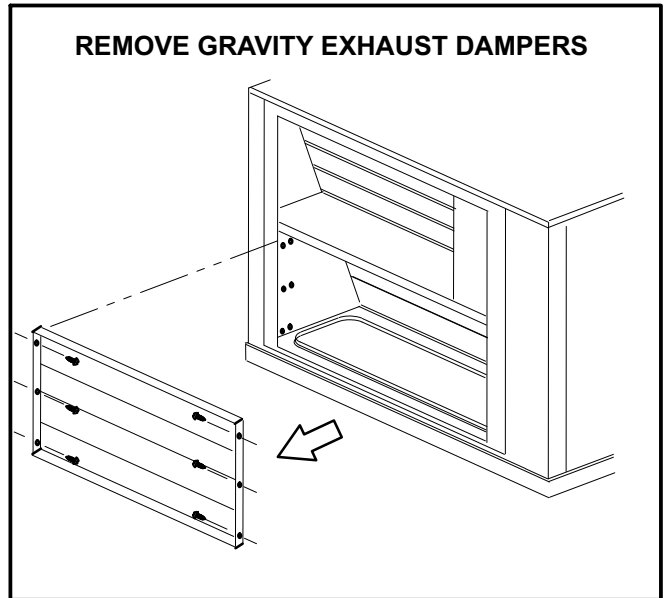

FIGURE 2
- 4- Remove gravity exhaust dampers from the economizer assembly. See figure 2.